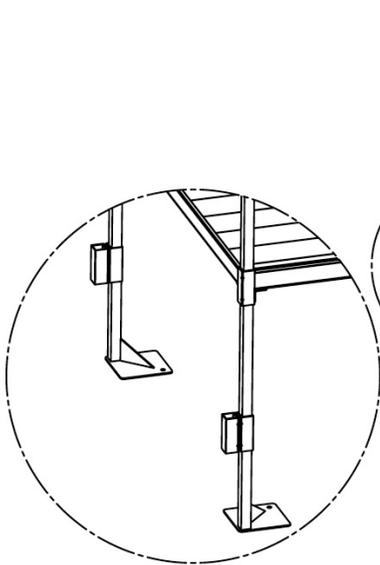

**FIG. 3**
- 1.5.2 Separate ends of brace bands until they go around the 1-1/2" square tube and install four bands on each leg with the part containing bolt holes at 90 degrees from each other and in line with the outer edge of the foot (FIG. 3).